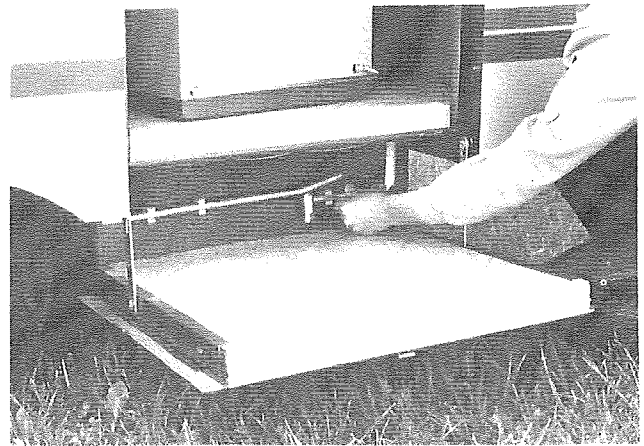

FIG. 8 - Tool Stowage
The Columbia and Jamestown models are not equipped with the step door or tool storage features as illustrated in Figure 8. Insert key in lock and turn 90 deg. clockwise. The pushbutton and handle will pop out. Rotate the handle 90 deg. clockwise to open the access door. To retain door in the "open" position, snap the webbed strap to the top of the door and the trailer aluminum top rail with the snaps provided.
10. Remove the crankshaft handle from the recommended stowage location in the access door step (except Columbia and Jamestown) and attach it to the crankshaft at the tongue end of the trailer. (See Fig. 8 & 10)